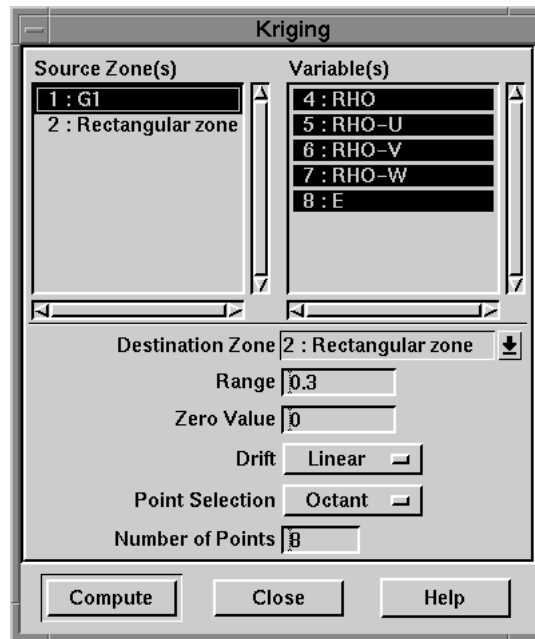

Figure 25-21. The Kriging dialog in Motif.
3. From the Data menu, choose Interpolate, then choose Kriging. The Kriging dialog appears, as shown in Figure 25-21